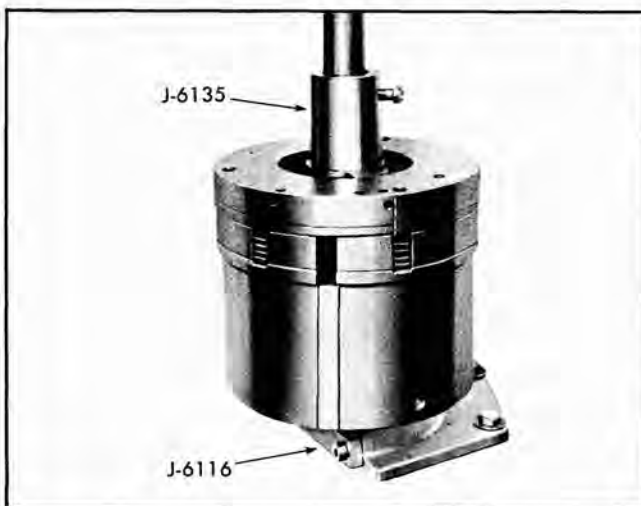

Fig. 100 Installing Rear Unit Clutch Retainer
press clutch release springs, and tighten lock bolt (Fig. 100).
34. Rotate the case center support so that the right hand edge of cup plug in the center support is aligned with left edge of the first neutral clutch plate slot to the right of the neutral clutch drum key slot as illustrated (Fig. 100). **CAUTION:** This alignment must be accurate so as to ensure alignment of oil passage between pump and case when pump is installed.
35. Mark the rear drum to indicate the alignment of the neutral clutch drum key slot (Fig. 100).